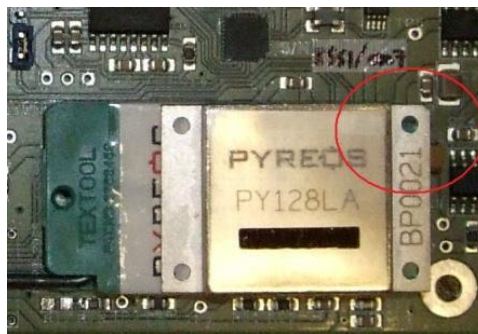

Figure 4: Locating linear array sensor in the socket
2. Locate the Linear Array sensor in the socket with pin 1 (highlighted by the cut corner shown in Figure 4) aligned with slot 1 of the socket (diagonally opposite corner from the lever).